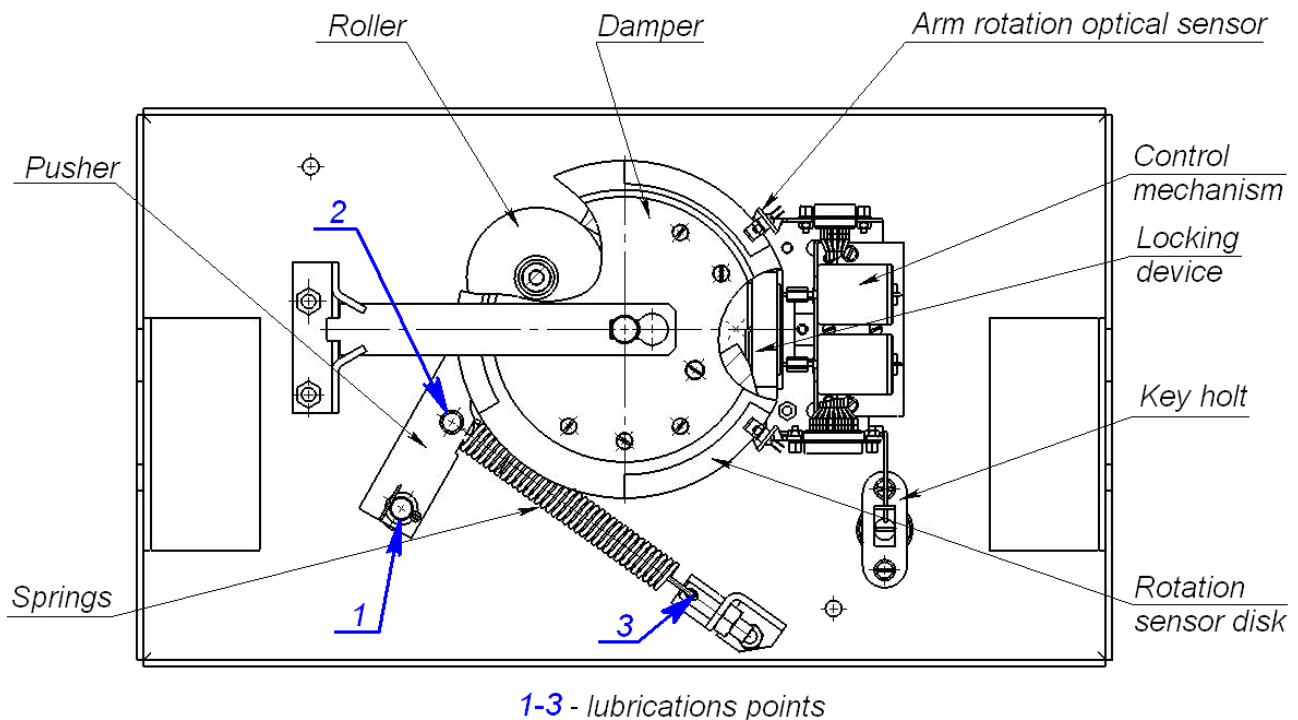

Fig. 14. Interior components of the TB-01 turnstile mechanism
To provide an additional emergency exit the turnstile can be equipped with anti-panic folding arms. Without any special keys or tools the folding arm option allows you to clear the passageway in emergency situations – just pull it out in its axis direction, until the rotation mechanism is free, and then fold the arm down (Ref. Fig. 14).
2. Remove the turnstile top cover (3) from the turnstile housing as described in Section 6, lay the cover on a flat steady surface;
3. Inspect the resetting mechanism (a pusher, springs and a roller), optic sensors and a damper (Ref. Fig. 14).
- four bushes of the resetting mechanism (two – on the rotation axis of the pusher, two – on the fastening axis of the springs as well as holes in the fastening parts of the springs); 2-3 drops of oil in each lubrication point (lubrication points are marked in Fig. 14); avoid ingress of lubricant on the rotation sensor disc and the roller surfaces;
- lock cylinders of the mechanical release lock (7) and top cover lock (4) from a side of the keyhole.
7. Check reliability of the barrier arm (5) fastening, to do so:
- unscrew the cover (6) screw M4×25 with a screw driver and take off the cover;
9. Return the top cover (3) into its operating position (Ref. Section 6); mounting of the housing top cover does not need much efforts: the top cover lock locks by pressing the lock cylinder without turning the key.